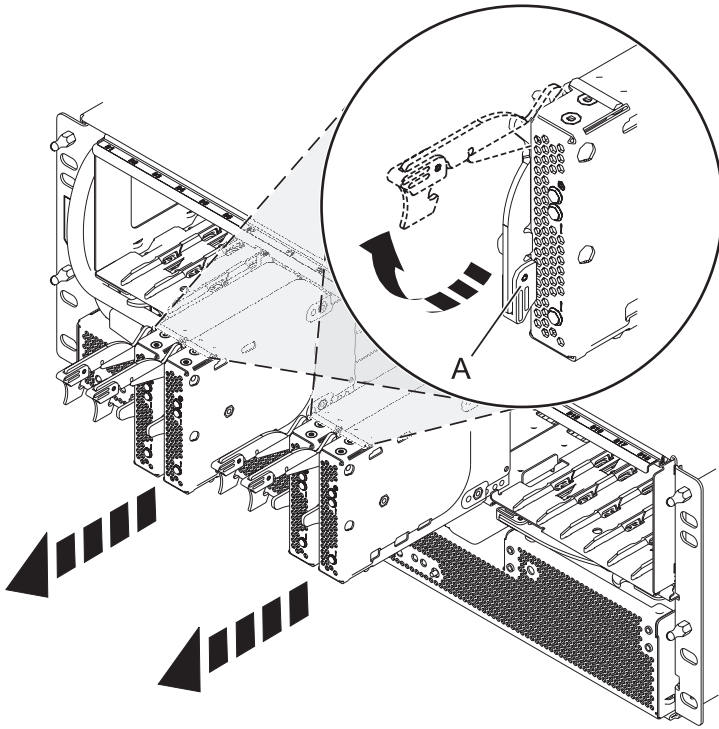

Figure 63. Removing the port card from the backplane
5. Remove the port cards and fillers as shown in Figure 63 on page 80.
- a. Hold the end of the latching handle (A) and pull it upward to unlock the port card.